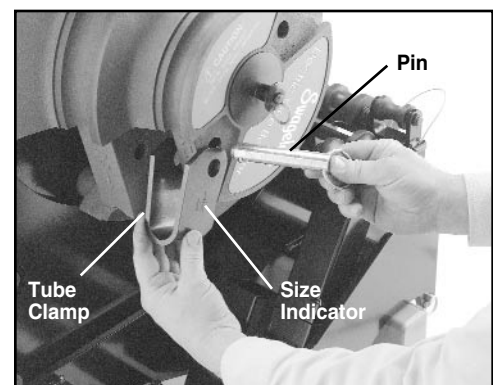

Figure 4
3. Select proper tube clamp; the size is indicated on clamp face. Locate the tube size on the bend shoe, and attach the tube clamp with pin, making sure the size identification faces out. (See Figure 4.)